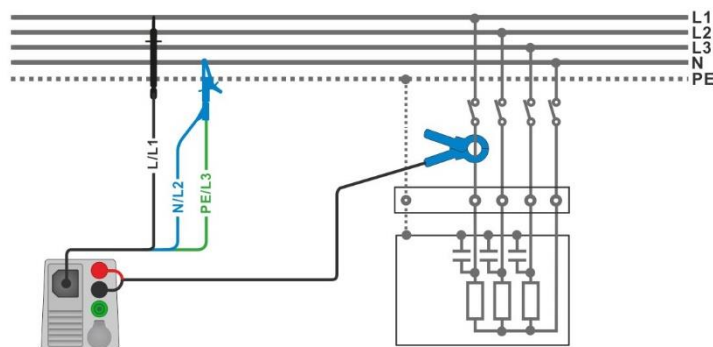

Figure 7.84: Harmonics measurement
- › Connect 3-wire test lead and current clamp to the item to be tested, see **Figure 7.84**.